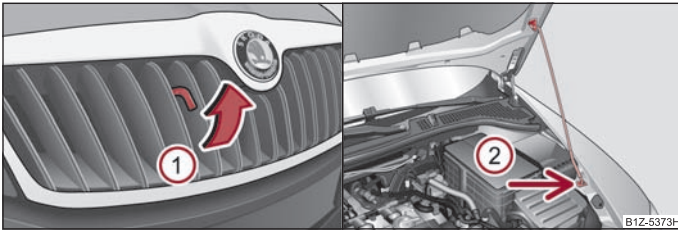

Fig. 13 Radiator grille: Locking lever/securing the bonnet with the bonnet support
- Pulling on the locking lever in direction of arrow ① ⇒ fig. 13 will unlock the bonnet.
- Take the bonnet support out of its holder and set it in the opening ②.